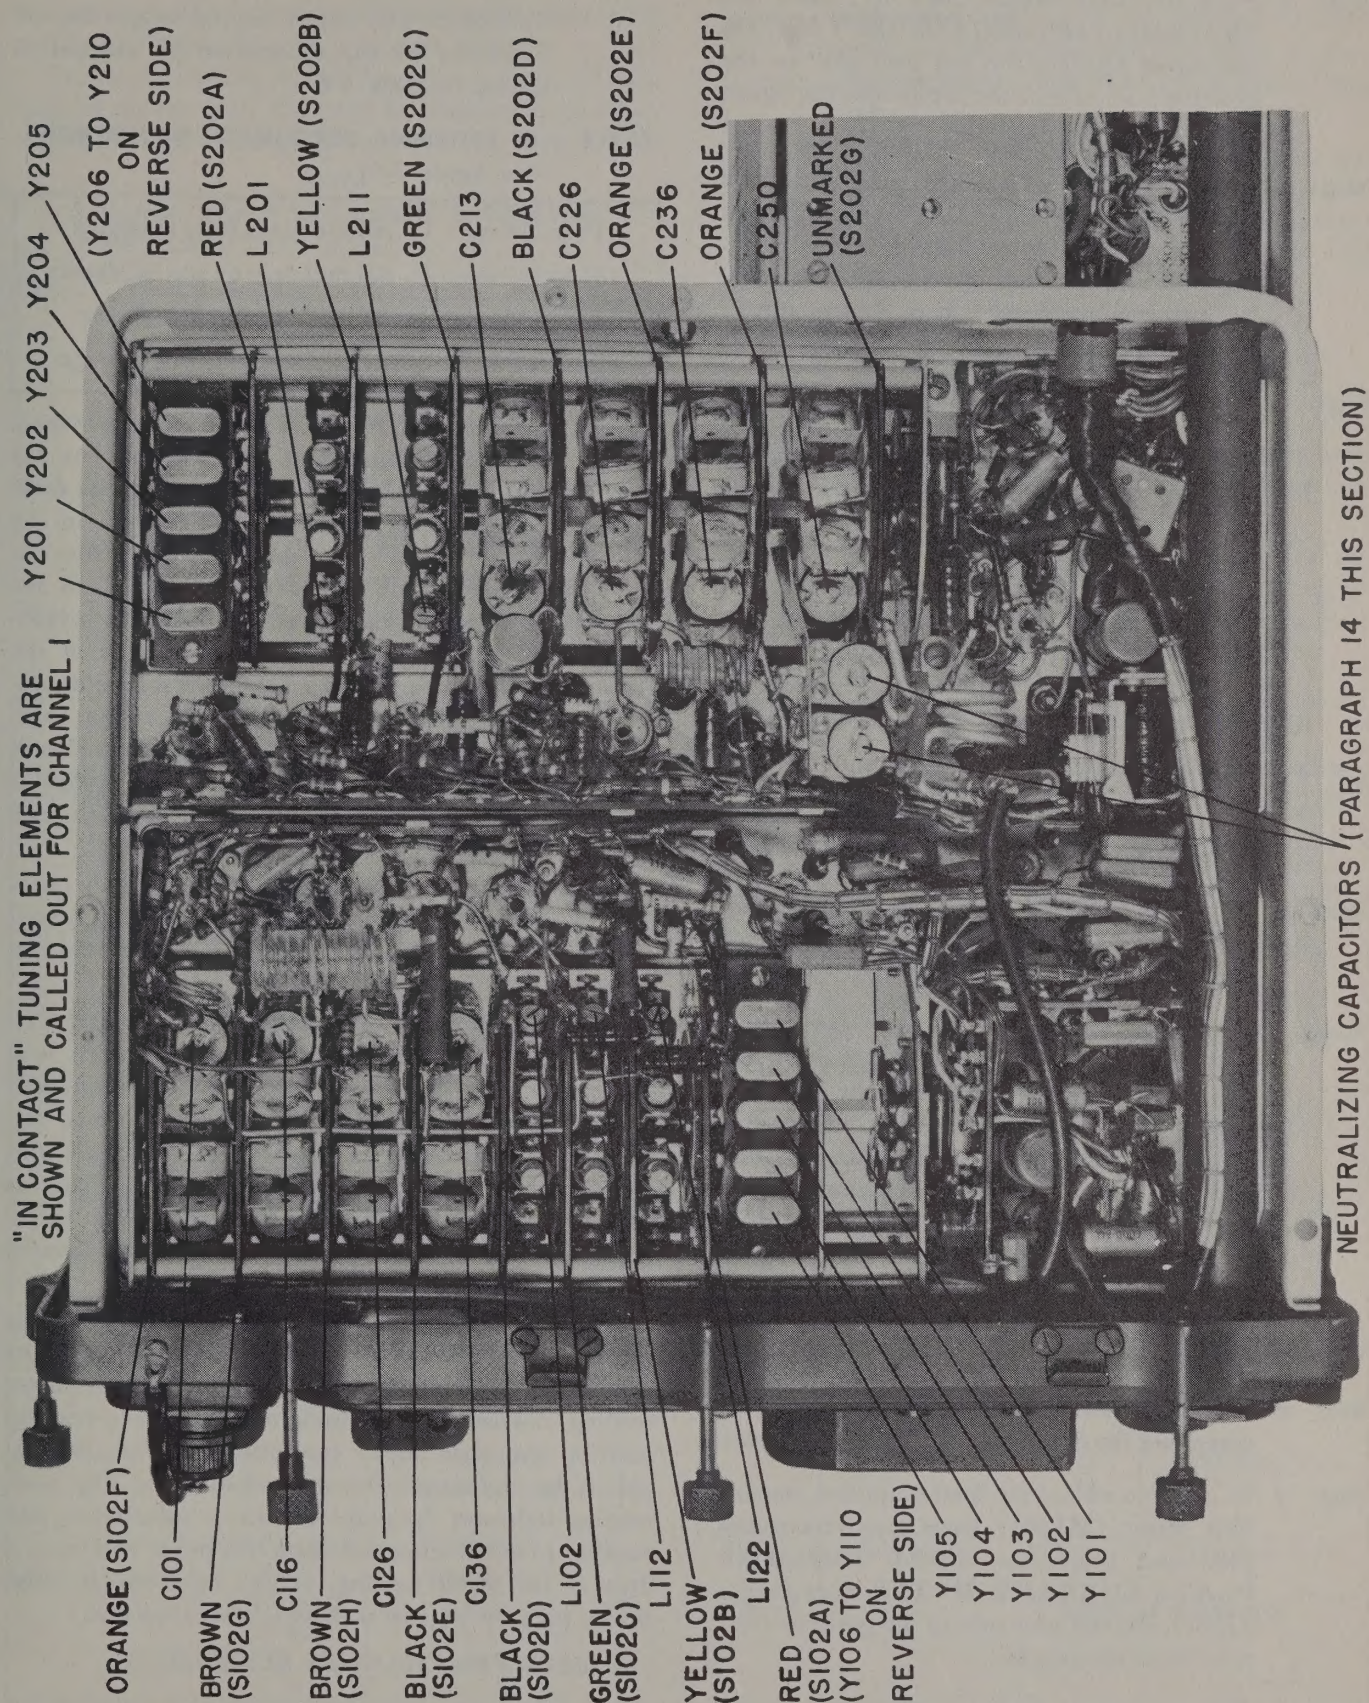

Figure 6-5. Channel Alignment Adjustments
Figure 6-25 shows pictorially the transmitter turret color coding and may be used to complement figure 6-5, which is referenced in the procedure below.
- Step 1. Turn CHANNEL SELECTOR knob to the channel to be aligned and insert proper crystal in corresponding transmitter crystal socket. See figure 6-5. (The transmitter crystal frequency will be 750 kc above that of the receiver.)
(1) "CONTACT POSITION" COIL OR CAPACITOR.—Examination of the turret switch will show that there are ten tuning components on each wafer, but only one is connected to the associated circuit at each position. The capacitor or coil which is in contact with the circuit is said to be in the "contact position", and is the one to be adjusted for that stage. Figure 6-5 shows the capacitors and coils of channel one in "contact position".
(2) TUNING TO RESONANCE.—In tuning for "resonance", turn the tuning component through its full range of adjustment and note the highest meter reading obtained. Turn back to the highest-reading position and then adjust carefully back and forth to obtain the highest possible meter indication. This peak reading indicates the point of correct adjustment, and turning in either direction from this point will cause a drop in the meter reading. (Don't be misled by false peaks; pick the highest if there is more than one.)
Figure 6-24 shows pictorially the receiver turret color coding and may be used to complement figure 6-5, which is referenced in the procedure below.
- Step 1. Turn CHANNEL SELECTOR knob to the position to be aligned and insert proper crystal in corresponding receiver crystal socket. See figure 6-5. (The receiver crystal frequency will normally be 750 kc below that of the transmitter.)